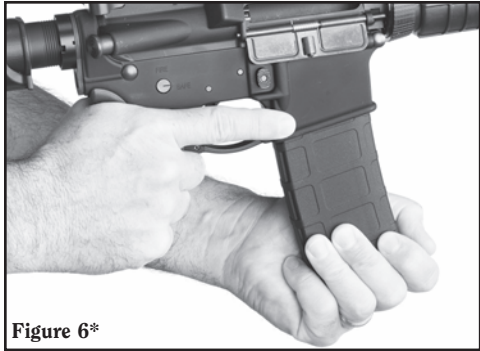

Figure 6*
See Figure 6. The magazine may be inserted with the bolt carrier either in the closed or open position (see “Bolt Catch” section p. 11), although significantly more force will be necessary to insert the magazine with the bolt in the closed position.
* **NOTE** – Figures 6 and 7 depict 30-round magazines. Some AR-556® models are equipped with 5 or 10-round magazines for those states and locales with magazine capacity restrictions.